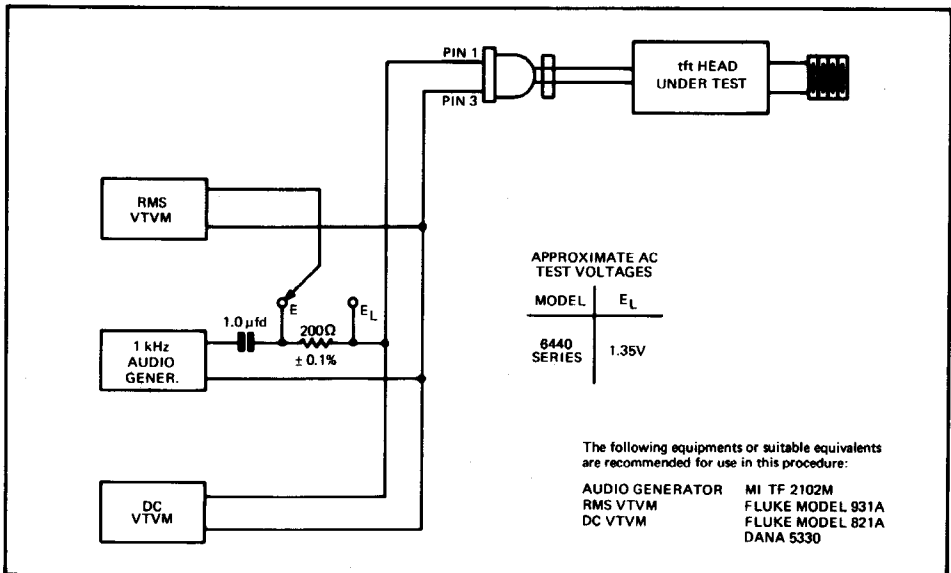

Figure 5 Test Set-Up for Audio Calibration
- (a) Connect the tft Power Head as shown in figure 5. Be sure to observe proper ground connections to avoid spurious ground loops. To check for this, prior to connecting the tft Power Head, observe the d.c. voltmeter as the a.c. generator output is varied. There should be no reading under these conditions. Disconnect the d.c. voltmeter and observe that there is no change in the a.c. voltmeter reading.
- (b) Adjust the output of the 1KHz generator to the voltage indicated Fig.5 (approximately 10% below the maximum rated power of the head). Measure the rms audio input voltages (E and E_L) and the d.c. output voltage E_{DC} and compute the sensitivity (S) as follows: